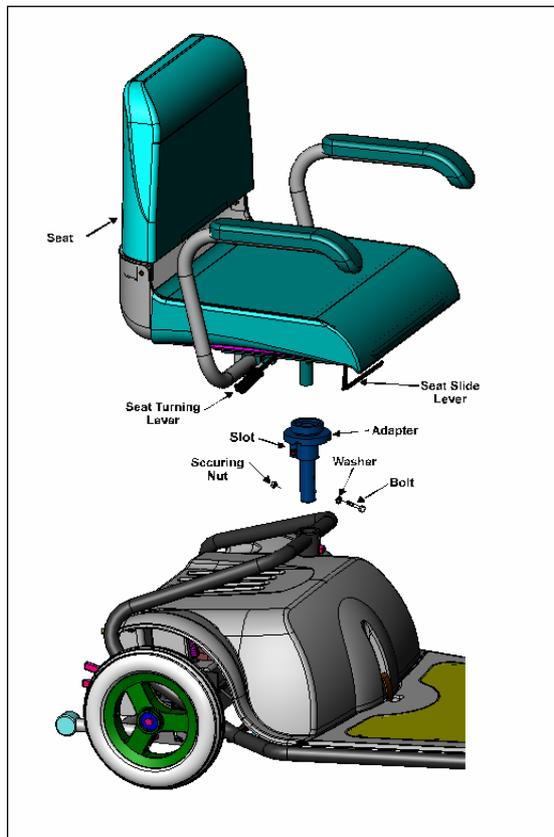

Figure 11
2.5 Seat Installation (Figure 11)
- a. In the **High** speed mode (marked by the “hare” symbol next to the **Speed Selector** switch) the maximum attainable speed is 7.5 km/h (4.6 mph) When selector is in **High Speed Mode** – Green light of switch is ON. (See **Fig. 11**).